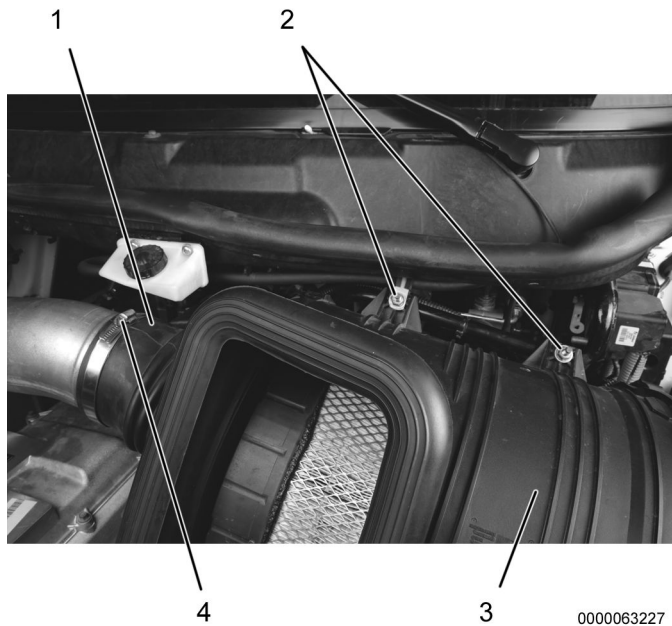

Figure 15. Air Filter Housing.
29. Remove cap ZTSE4891 from tube and install air filter housing (Figure 15, Item 3) onto vehicle with two nuts (Figure 15, Item 2).
30. Install air filter housing tube (Figure 15, Item 1) onto tube with clamp (Figure 15, Item 4).
31. Using torque wrench, tighten clamp (Figure 15, Item 4) to 66 - 75 lb-in (7.5 - 8.5 N·m).